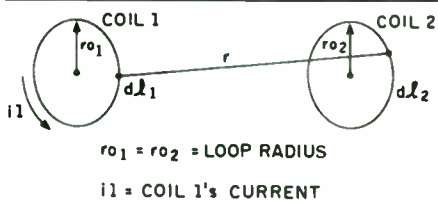

FIGURE 2: Illustrating emf generated at coil 2 according to Faraday's law.
Where  $i$  is the current flowing in coil 1,  $t$  is seconds, and  $M$  is the mutual inductance proportionality constant, expressed in henries (H) (*Fig. 2*). Where